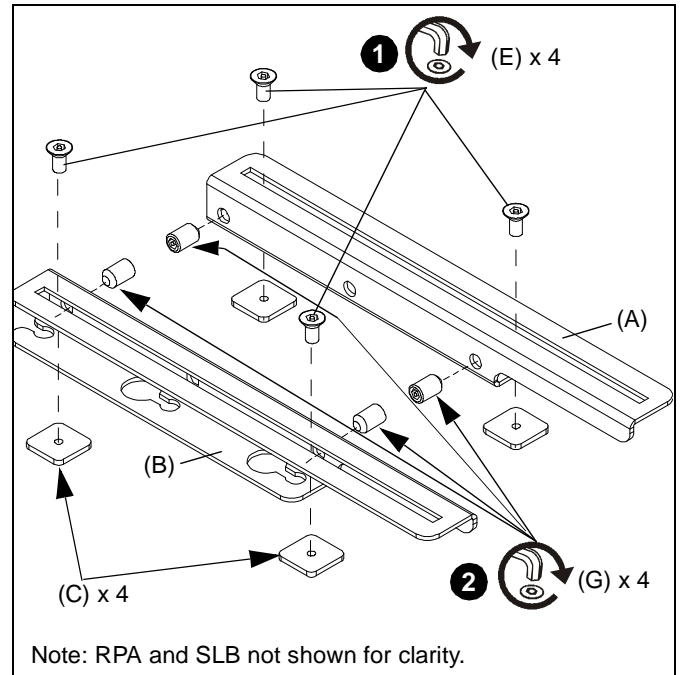

Figure 6
1. Replace the four 10-24 thumb nuts (D) and the four 10-24 x 5/8" carriage bolts (F) with four lateral shift security nuts (C) and four 10-24 x 3/8" flathead security screws (E). (See Figure 6)
2. Install four 5/16" security set screws (G) into inner holes on LSB100 brackets (A) and (B). (See Figure 6)